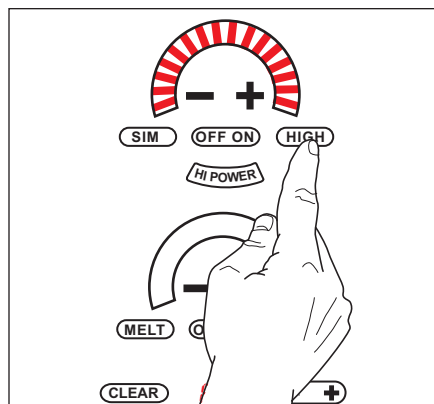

Figure 3-13 Press “HIGH”
5. Touching “HIGH” activates 16 Power Level Indicator - LEDs with a power level equivalent to 10. (See Figure 3-13)